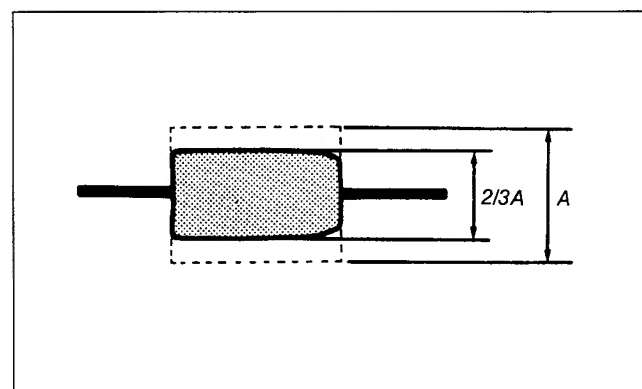

Fig. 8-63.
- 1) Playback the tracking alignment tape. Turn the track shift knob of the track shift & monitor jig to adjust the amplitude of the RF waveform to two-thirds of its maximum. (Refer to Fig. 8-63.)